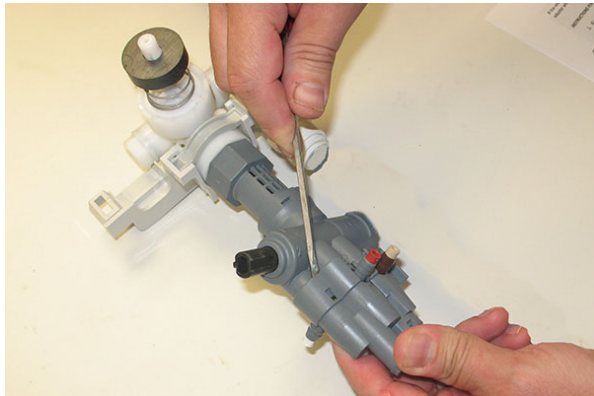

FIG. 45
9. Use a small standard screwdriver to gently pry the lower portion of the valve assembly from the rest of the valve assembly. (Fig. 45 / Fig. 46 / Fig. 47)